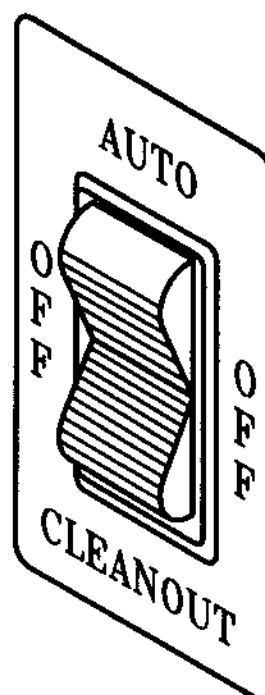

Fig. 43
5. To start the machine set the Auto/Cleanout switch (Fig. 43) to the "AUTO" position.